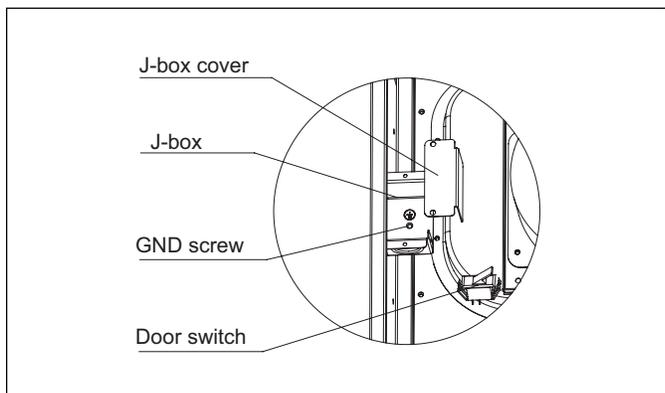

Figure 46 J-Box
1. Remove and save two screws holding J-Box (See Figure 46).
See Fig. 46 on previous page.
4. Remove and save two screws holding J-Box. (See Fig. 46.)